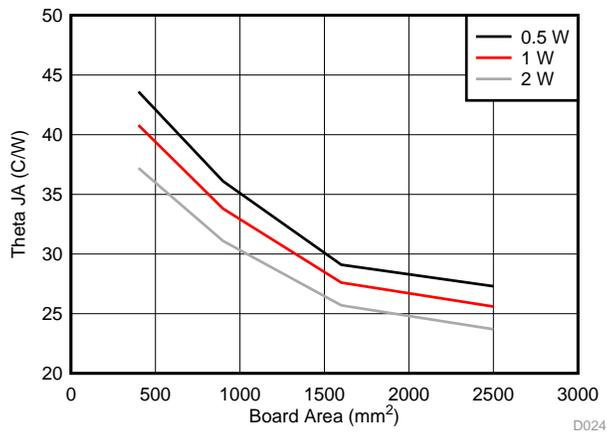

Figure 17.  $R_{\theta JA}$  versus Copper Board Area
It is easy to see that larger ambient temperatures ( $T_A$ ) and larger values of  $R_{\theta JA}$  will reduce the maximum available output current. As stated in SPRA953, the values given in the *Thermal Information* table are not valid for design purposes and must not be used to estimate the thermal performance of the application. The values reported in that table were measured under a specific set of conditions that are never obtained in an actual application. The effective  $R_{\theta JA}$  is a critical parameter and depends on many factors such as power dissipation, air temperature, PCB area, copper heat-sink area, number of thermal vias under the package, air flow, and adjacent component placement. The LM53603-Q1 utilizes an advanced package with a heat spreading pad (EP) on the bottom. This must be soldered directly to the PCB copper ground plane to provide an effective heat-sink, as well as a proper electrical connection. The resources found in Table 8 can be used as a guide to optimal thermal PCB design and estimating  $R_{\theta JA}$  for a given application environment. A typical example of  $R_{\theta JA}$  versus copper board area is shown in Figure 17. The copper area in this graph is that for each layer of a four layer board; the inner layers are 1 oz. (35 $\mu$ m), while the outer layers are 2 oz. (70 $\mu$ m). A typical curve of maximum load current versus ambient temperature, for both the LM53603-Q1 and LM53602-Q1, is shown in Figure 18. This data was taken with the device soldered to a PCB with an  $R_{\theta JA}$  of about 17°C/W and an input voltage of 12 V. It must be remembered that the data shown in these graphs are for illustration only and the actual performance in any given application will depend on all of the factors mentioned above.